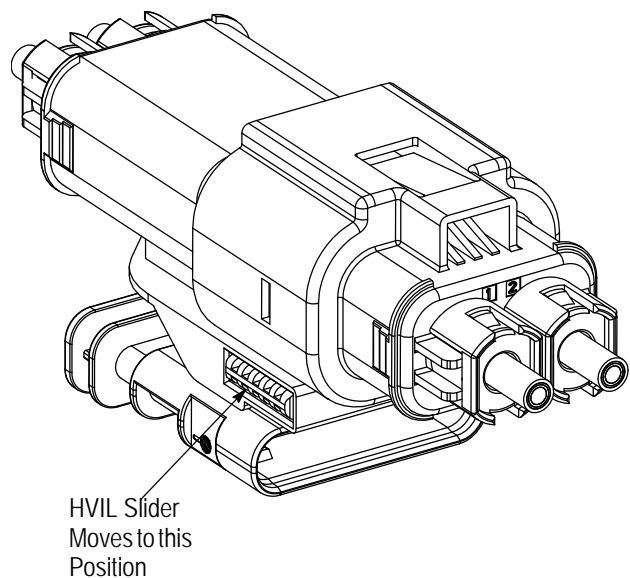

Figure 26
2. The HVIL post on the AMP+ HVA400 plug connector should engage and change the position of the HVIL slider as shown in Figure 26. If the connector halves do not fit together easily, check the following: